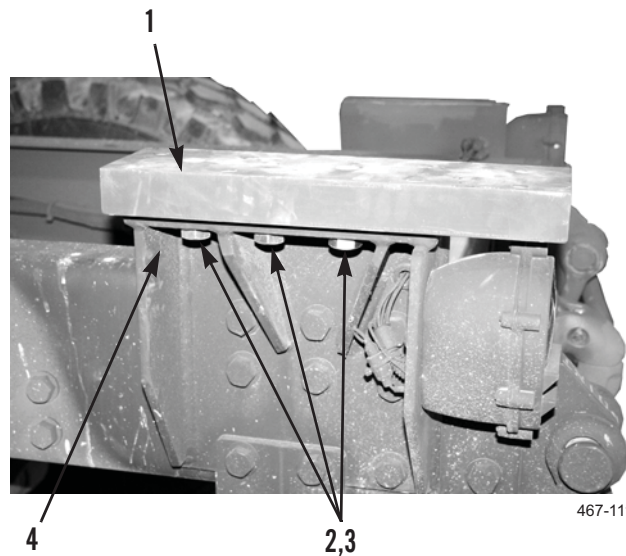

Figure 12. HEMTT Slider Mounting Block Installation.
1. Install slider mounting block (Figure 12, Item 1), three washers (Figure 12, Item 3), and bolts (Figure 12, Item 2), on mounting bracket (Figure 12, Item 4).